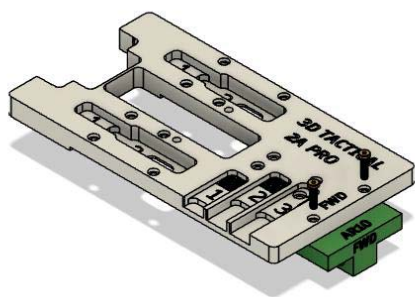

Figure 2-1
1. Install the AR10 pivot block to the underside of the top plate and secure it with 2 *Low-Profile Socket Head Screws*. This should align with the inscribed letters 'FWD' on the top plate. Verify that the letters 'FWD' on the pivot block is facing out. Refer to Figure 2-1.